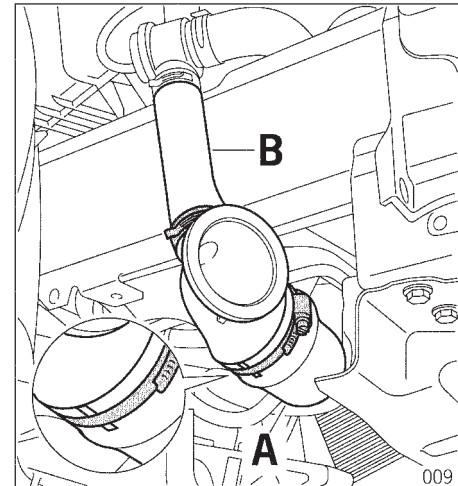

Figure 9
- 10.7.1** Slide right pressure hose (955.110.838.00) onto right pressure pipe (955.110.367.00) and join with hose clamp (N 024 505 6). Observe assembly position (Figure 9, inset)!